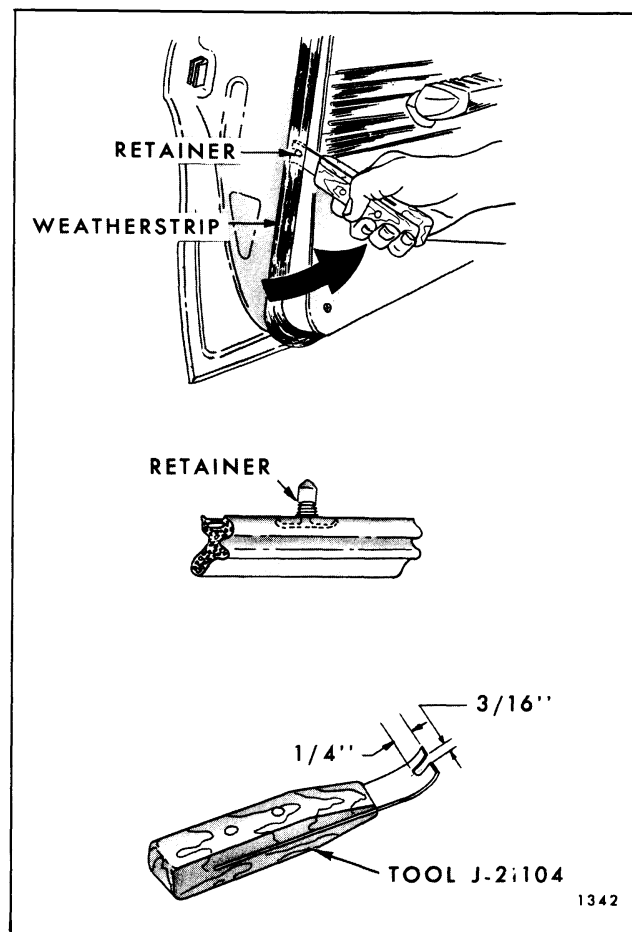
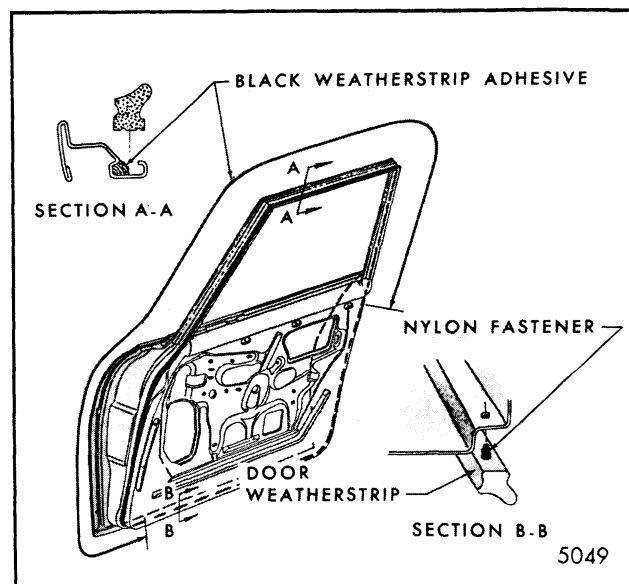
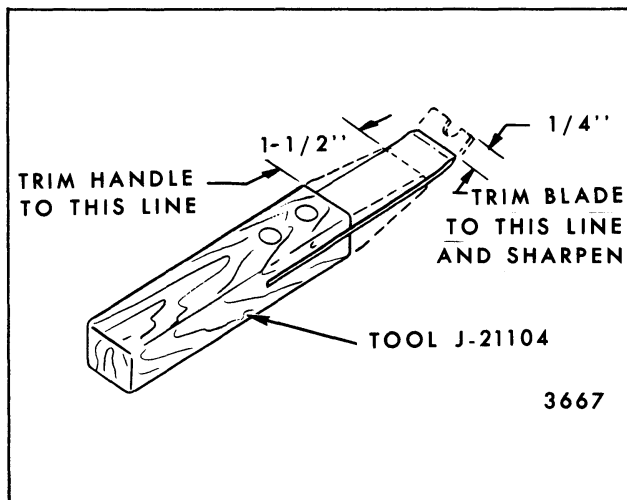

Fig.5-19-Door Weatherstrip Removal
Fig. 5-20-Door Weatherstrip - All Styles
Fig. 5-22-Weatherstrip Removal Tool
door panels. The serrations on the fastener retain the fastener in the piercing and also seal the openings from water entry (Fig. 5-19). On closed styles, nylon fasteners are used below the beltline only. Weatherstrip adhesive retains the weatherstrip around the door upper frame (Fig. 5-20). On all styles, in addition to the fastener, weatherstrip adhesive is used at the beltline and down the front door hinge pillar.
To disengage nylon fasteners from door panel piercings use tool J-21104 equivalent (Fig. 5-19). This tool permits removal of the weatherstrip without damaging the serrations on the fasteners so that the weatherstrip can be reinstalled if desired. Although a replacement door weatherstrip will include nylon fasteners, individual fasteners are also available as service parts.
2. Use a flat-bladed tool to break cement bond between door and weatherstrip. A tool applicable to this usage can be fabricated from tool J-21104 or equivalent (Fig. 5-22). On all styles, weatherstrip adhesive is used for a distance of 3" on door lock pillar and the entire length of the front door hinge pillar (Fig. 5-20). In addition, on closed
styles, weatherstrip is retained by weatherstrip adhesive completely around door upper frame (Fig. 5-20).
3. On closed styles, apply black weatherstrip adhesive around door upper frame (Fig. 5-20).